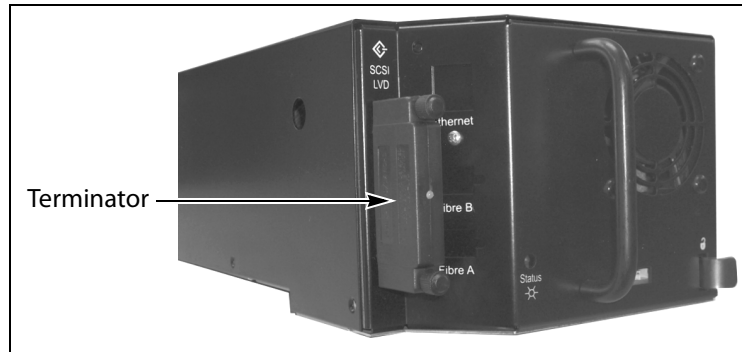

Figure 15 The SCSI terminator on a SCSI drive sled.
1. Remove the SCSI terminator from each drive (see Figure 15).